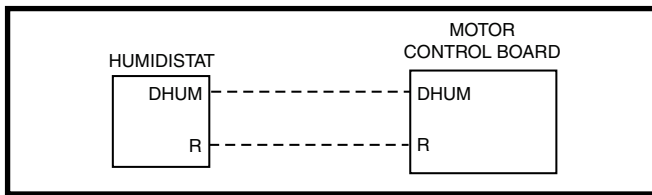

Figure 20. DEHUM Wiring Configuration with Humidistat
- If the room thermostat incorporates a humidity sensor and **DEHUM** output, connect the **DEHUM** on the thermostat to the **DEHUM** terminal on the motor control board. See Figure 20 \(page 23\).